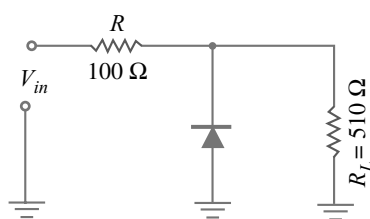

Fig. 16.74
1. The negative shunt clipper shown in Fig. 16.74 has peak input voltage of +15 V. What is the output peak voltage? [12.54 V]